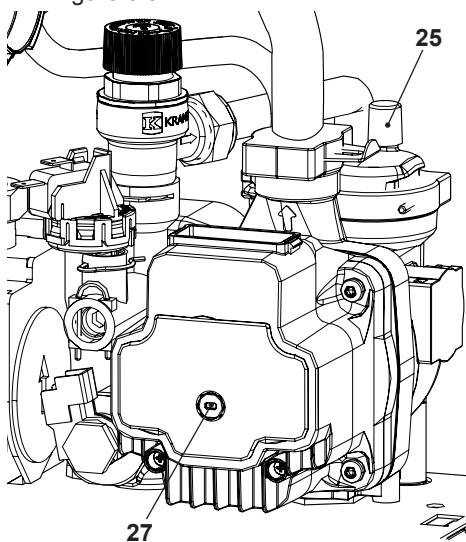

Figure 6.3
- Loosen the automatic bleed valve cap 25 in Figure 6.3.
- Remove the cap 27 in Figure 6.3 and release the pump by turning the impeller using a screwdriver.